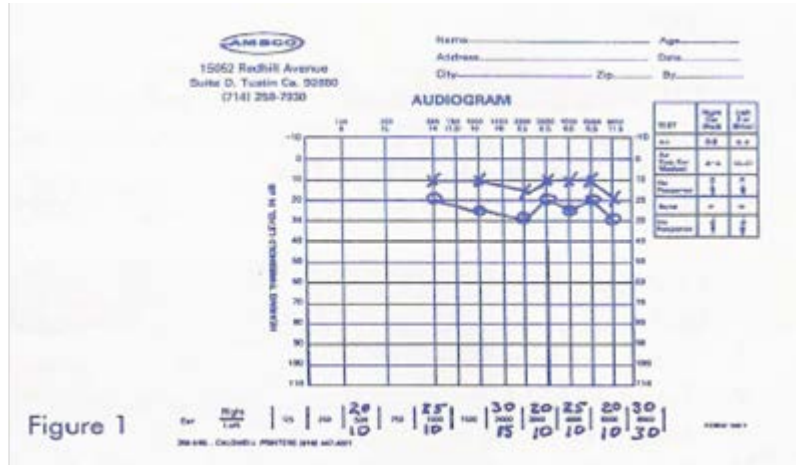

Figure 1
- 7.1. Using a common pad, Figure 1, you may record the results as in the following example.
- 7.5. Plot all of the results accordingly as shown in the above example, Figure 1.